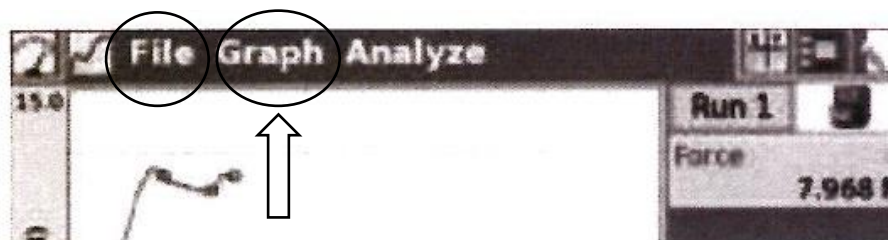

Figure 6. Adjusting graph display on LabQuest
Note 1: To adjust graph size during the run, select “Graph” from the top tool bar of the LabQuest Data Collector (see Figure 6), then select “Auto Scale Once”.
13. Stop data collection once the temperature starts increasing at a steady pace or reaches a plateau but must collect data to at least 700 seconds. Save the run (Fig. 6: File – Save).